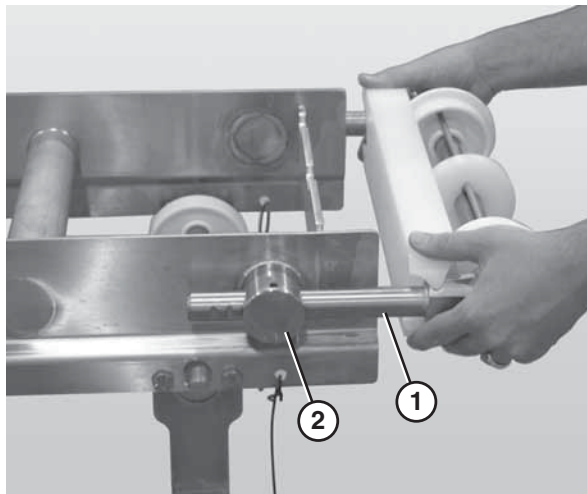

Figure 78
2. Slide the idler tail assembly (**Figure 78, item 1**) out of the take up blocks (**Figure 78, item 2**).